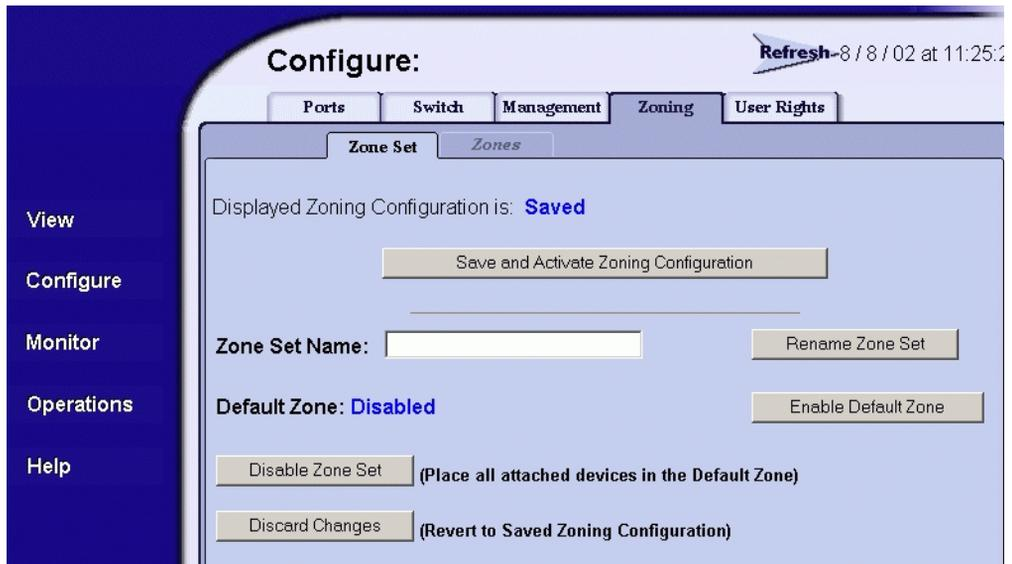

Figure 2–15: Zoning page—Zone Set tab
1. At the **Configure** panel and **Zoning** page, click the **Zone Set** tab. The **Zoning** page displays with the **Zone Set** tab selected, as shown in Figure 2–15.